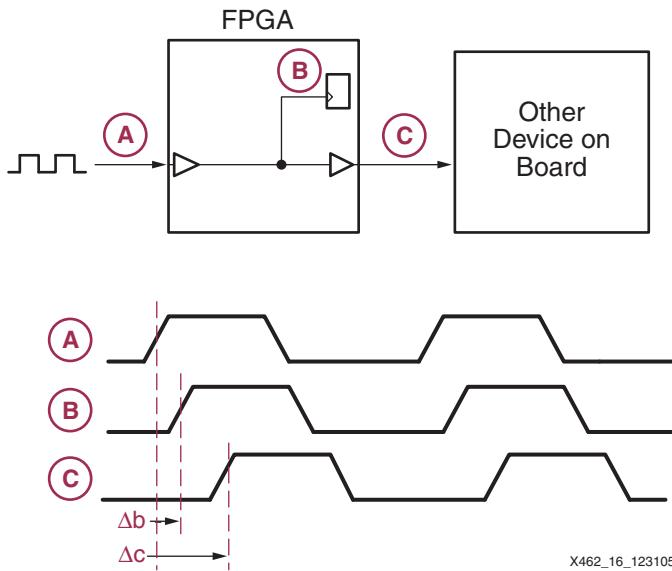
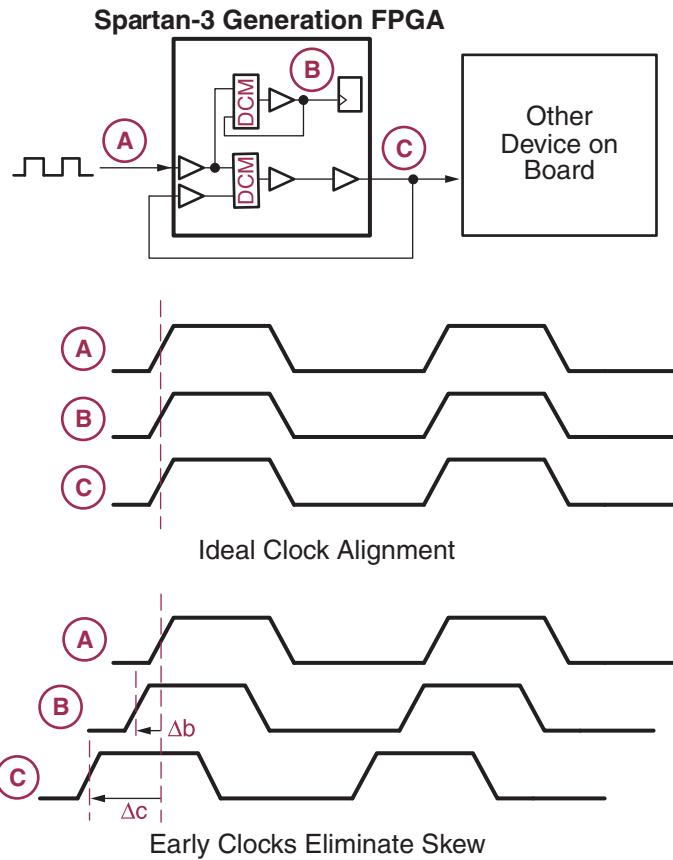

Figure 3-16: Clock Skew Inherently Exists in Every Synchronous System
Figure 3-17: **Eliminating Clock Skew in a Spartan-3 Generation FPGA Design**
Figure 3-16 illustrates clock skew in an example system. A clock source drives the clock input to an FPGA. The clock enters through an input pin on the FPGA, is distributed within the FPGA using the internal low-skew global clock network, and arrives at a flip-flop within the FPGA. Each element in the clock path delays the arrival of the clock edge at the flip-flop. Consequently, the clock input at the flip-flop—Point (B)—is delayed, or skewed compared to the original clock source at Point (A). In this example, this clock skew or difference in arrival time for this path is called Δb .
Figure 3-17 shows the same example design as Figure 3-16, except this time implemented in a Spartan-3 generation FPGA. Two DCMs eliminate the clock skew: one DCM eliminates the skew for clocked items within the FPGA, the other DCM eliminates the skew when clocking the other device on the board. The result is practically ideal alignment between the clock at Points (A), (B), and (C)!
How is clock skew elimination accomplished? Remember, clock skew is caused by the delay in the clock path. In Figure 3-17, the clock at Point (B) was skewed by Δb and the clock at Point (C) was skewed by Δc . What if there was a way to provide Point (B) with an early version of the clock, advanced by Δb and a way to provide Point (C) with an early version of the clock, advanced by Δc ? The result would be that all clocks would arrive at their destinations with perfect clock edge alignment. Such perfect alignment reduces setup times, shortens clock-to-output delays, and increases overall system performance.
Instead of attempting to determine the Δb and Δc delays in advance, the Spartan-3 DCM employs a DLL that constantly monitors the delay via a feedback loop, as shown in Figure 3-17. In this particular example, two DCMs are required—one to compensate for the clock skew to internal signals and another to compensate for the skew to external devices, each with their own clock feedback loop. The DLL constantly adapts to subtle changes caused by temperature and voltage.